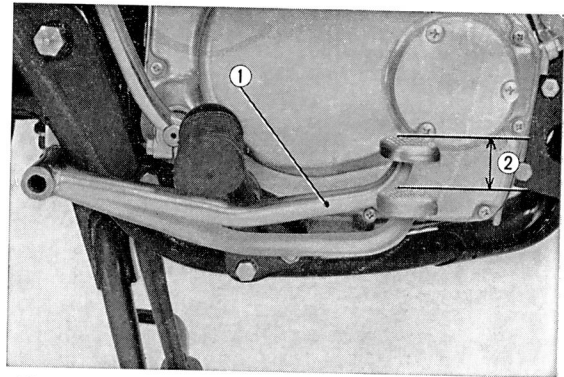

Fig. 6.39 Brake pedal free play
a. Raise the rear wheel off the ground and check the free play ② of the brake pedal ① in the same way as for the front brake, the play should be 0.8~1.2 in (2~3 cm). (Fig. 6.39)